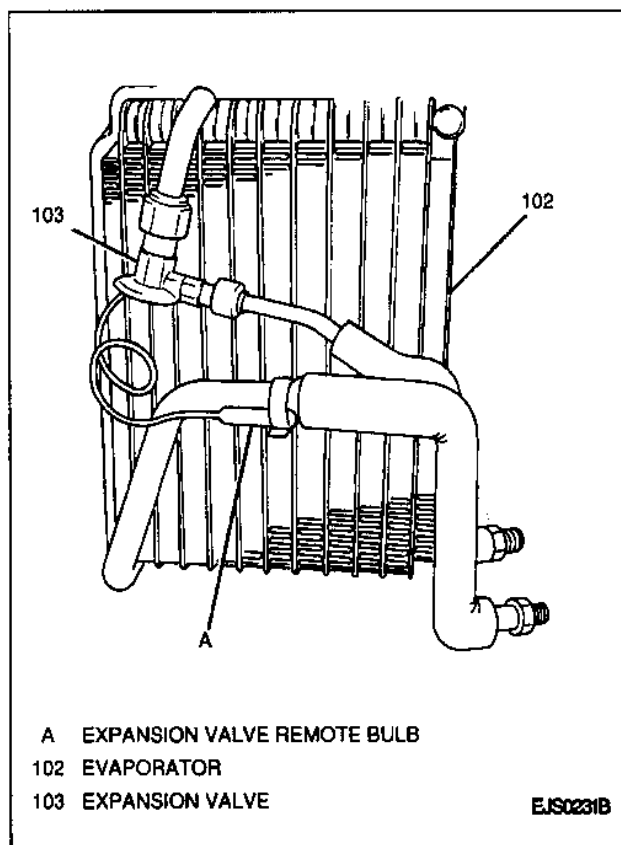

Figure 26—Evaporator and Expansion Valve
4. Expansion valve from evaporator by removing two nuts (Figure 26).
Figures 26 through 29
5. Expansion valve from evaporator by removing two nuts (Figure 26).